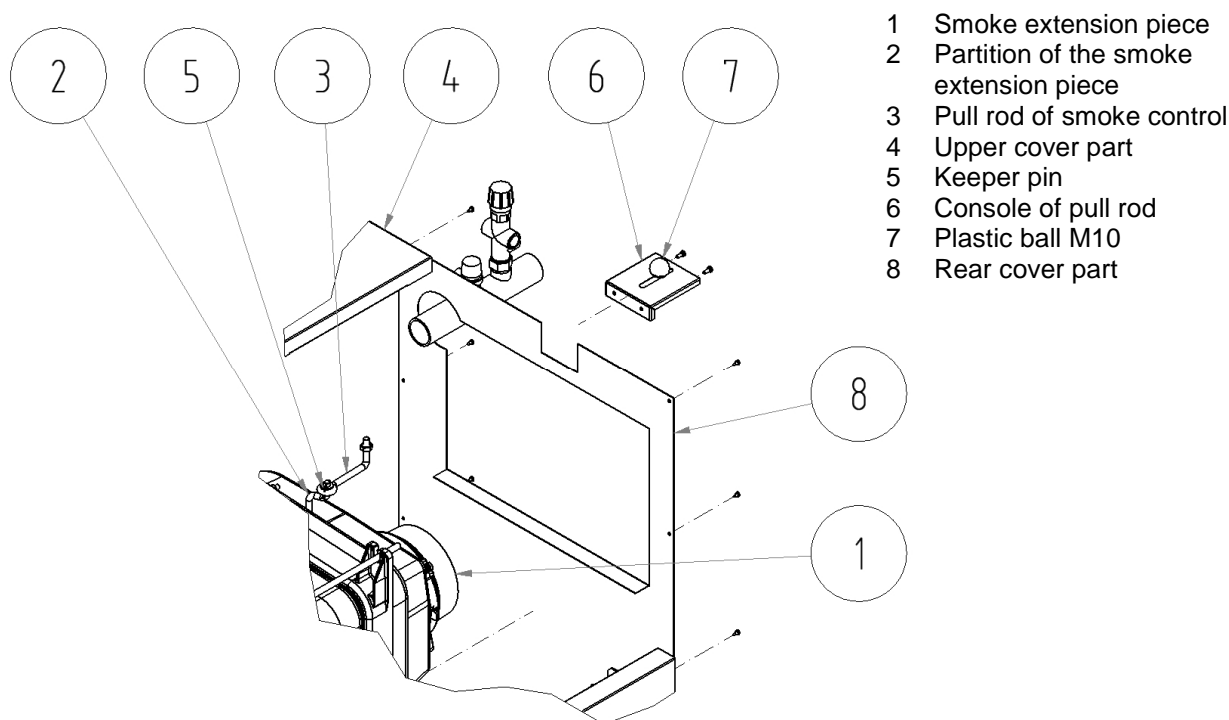

Fig. no. 8 Installation of the smoke control pull rod
12. The mounting of the pull rod of the smoke control according to the Fig. no. 8. Need of single parts: